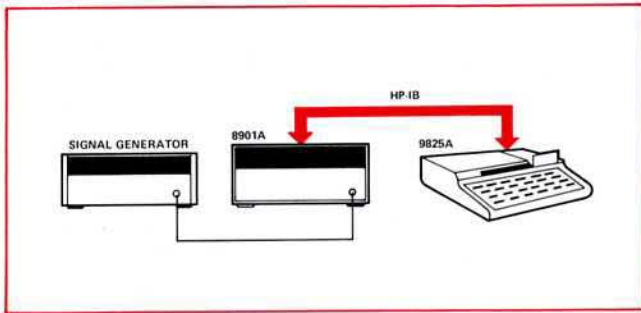

Figure 6-6. Example service request setup.
**Example:** Using the equipment shown (Figure 6-6), the example subprogram "limit" (Figure 6-7) interrupts the main program and prints the FM deviation with the 9825A strip printer whenever the source peak FM deviation is less than 60 kHz or greater than 70 kHz.